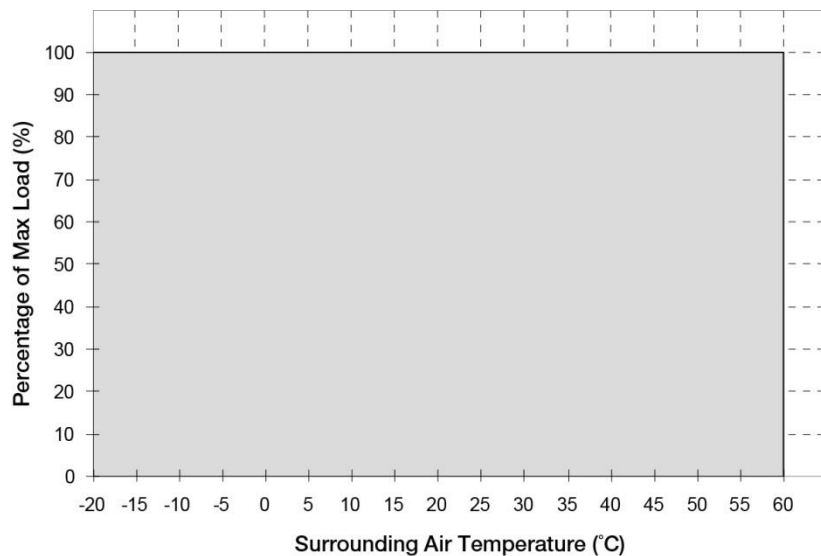

Fig. 2 No power de-rating across the entire operating temperature range (-20°C to +60°C)
1. The unit may degrade, or be damaged, when it is continuously used outside the shaded region, refer to the graph shown in Fig. 2.